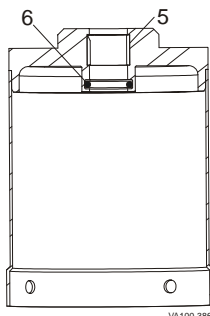

Figure 30 : Remove O-ring and Bearing
6. Remove and inspect the upper stem o-ring (Figure 30, item 6) in the top of the actuator cylinder.
8. Inspect and replace the PTFE guide bearing (Figure 30, item 5) in the actuator cylinder as needed.